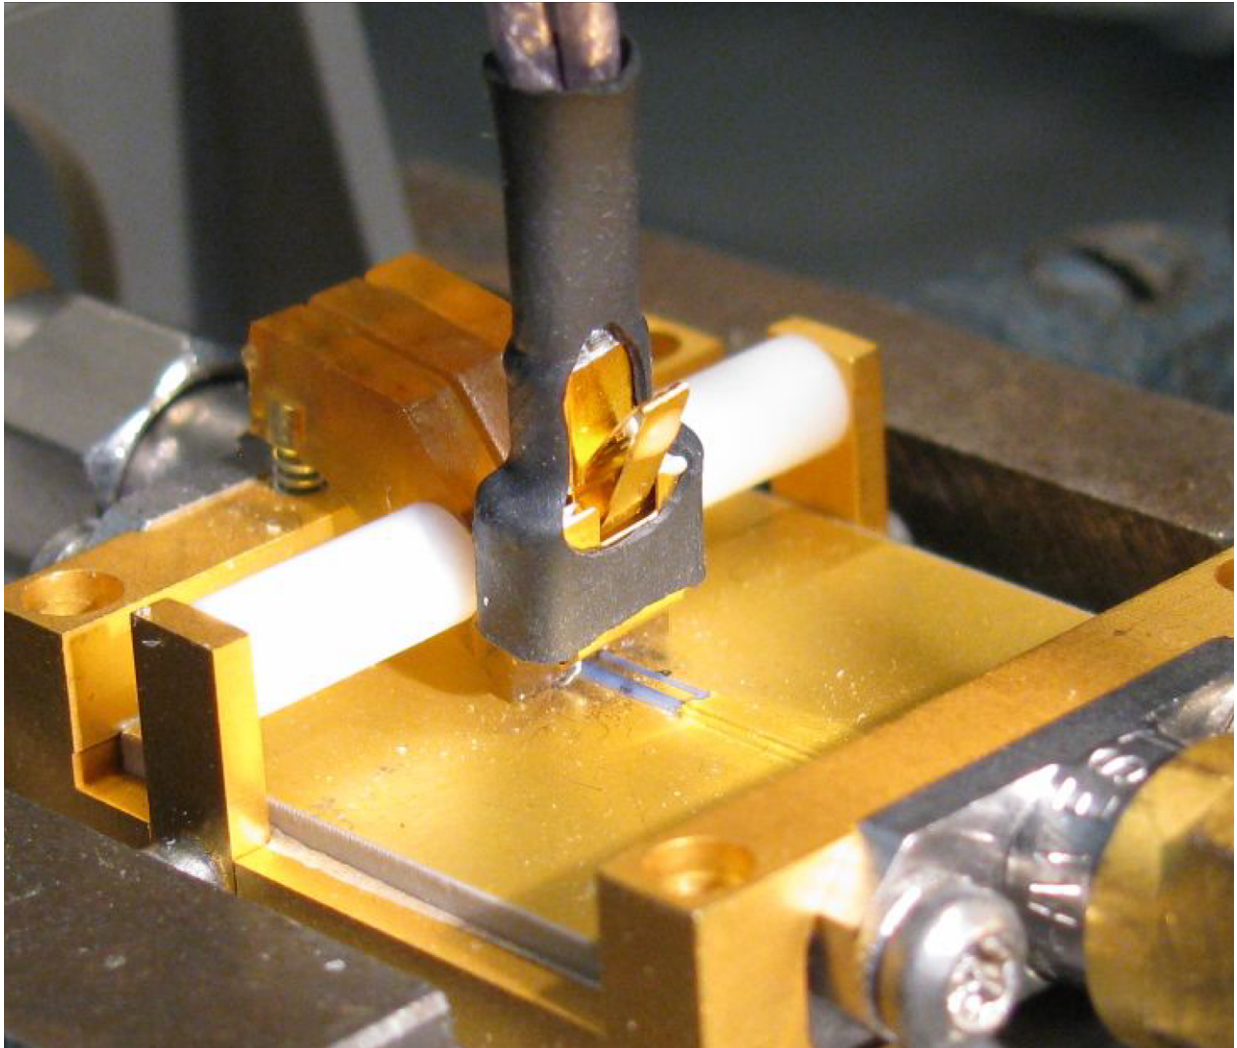

Figure 3 Close-up of tip wires positioned under pinchers
- c. Depress the actuators on the pinchers and carefully insert one wire under the center pincher and the other wire under one of the side pinchers. Either polarity of the probe can be tested and will yield the same results (but opposite phase) if the probe is working properly. Figure 3 shows a close up of the tip wires positioned under the pinchers.